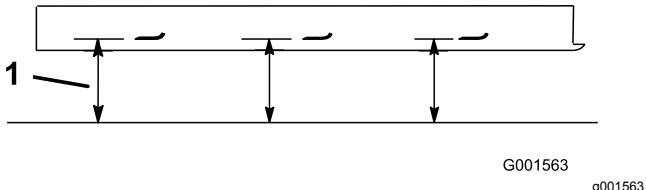

Figure 50
2. Measure from a level surface to the cutting edge, position A, of the blades (Figure 50).